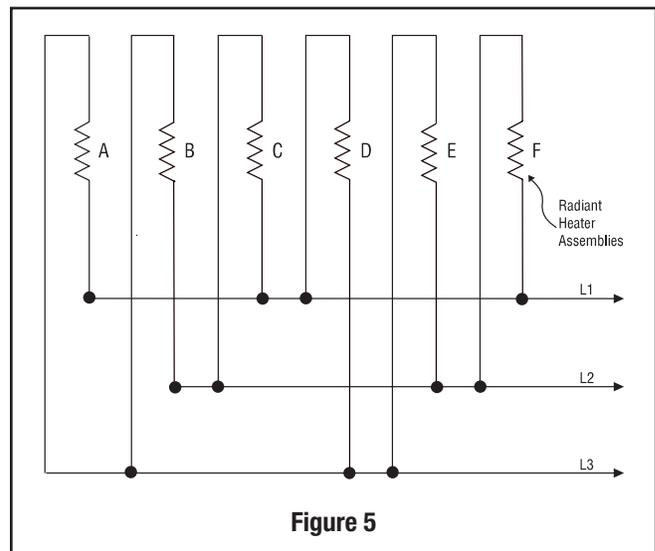

Figure 5
11. Delta Connections — When heaters occur in multiples of three, they may be connected to, and balanced across, three-phase lines. The most commonly used connection is the delta connection illustrated in Fig. 5. Three phase Delta connections to minimize inductive effect in conduits are made per this diagram.